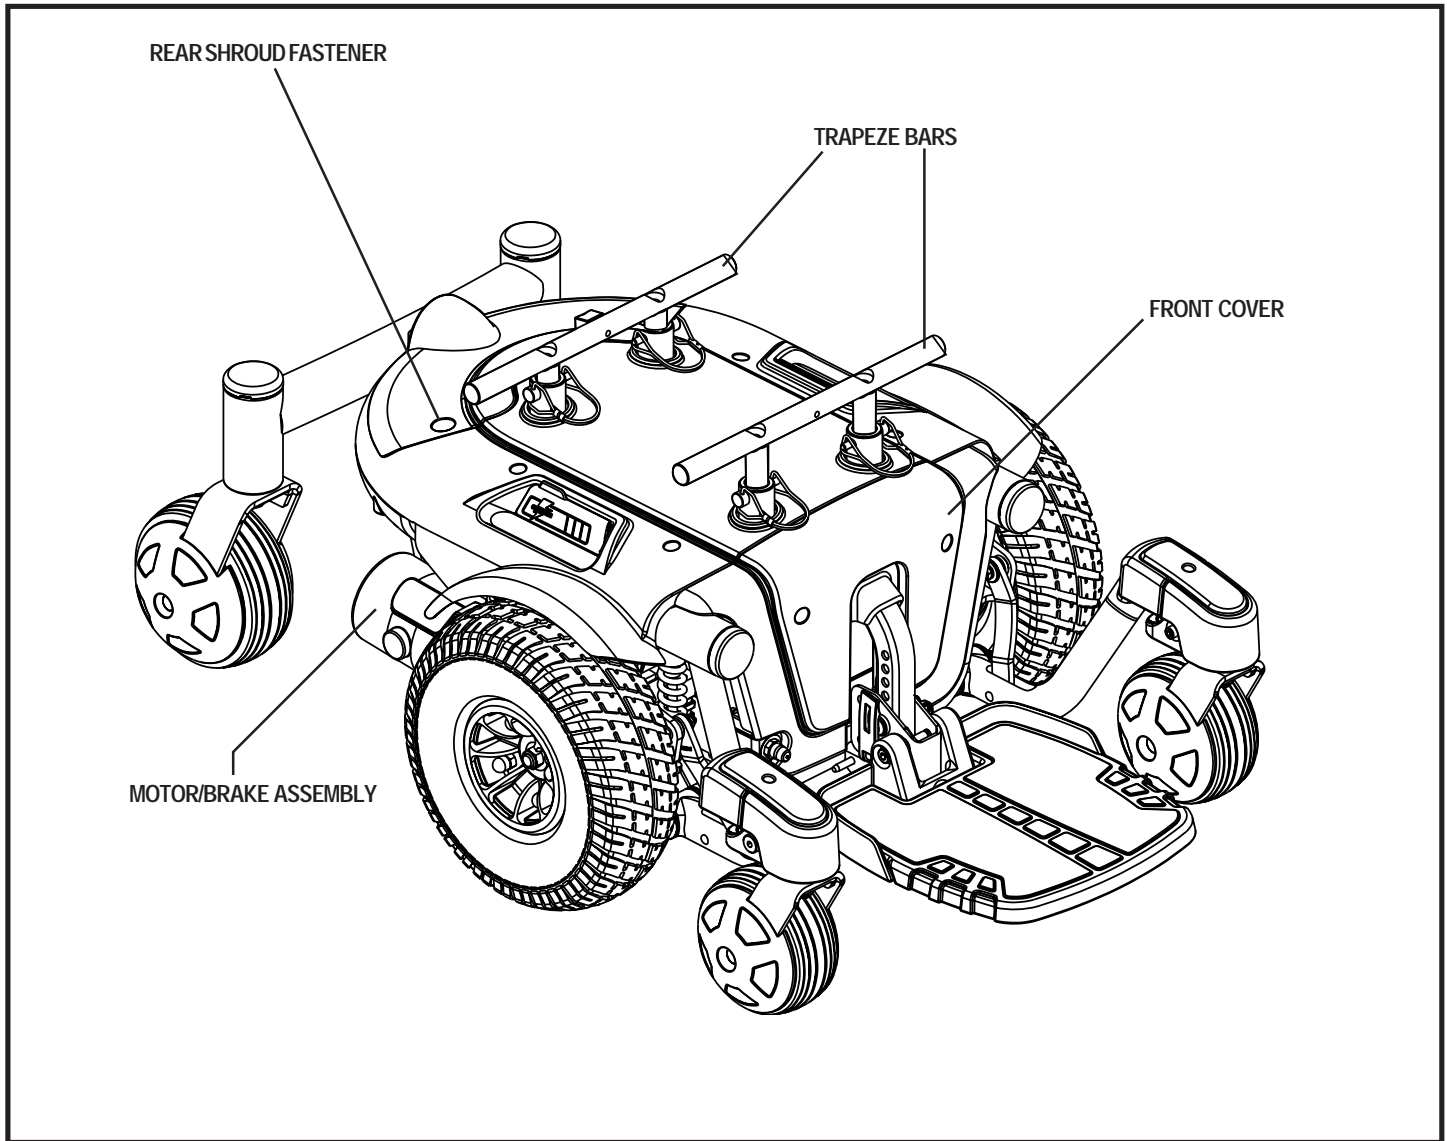

Figure 6. The Jazzy 610 Series Power Base
5. Loosen the rear shroud fasteners. See figure 6.
2. Loosen the rear shroud fasteners and remove the rear shroud. See figure 6.